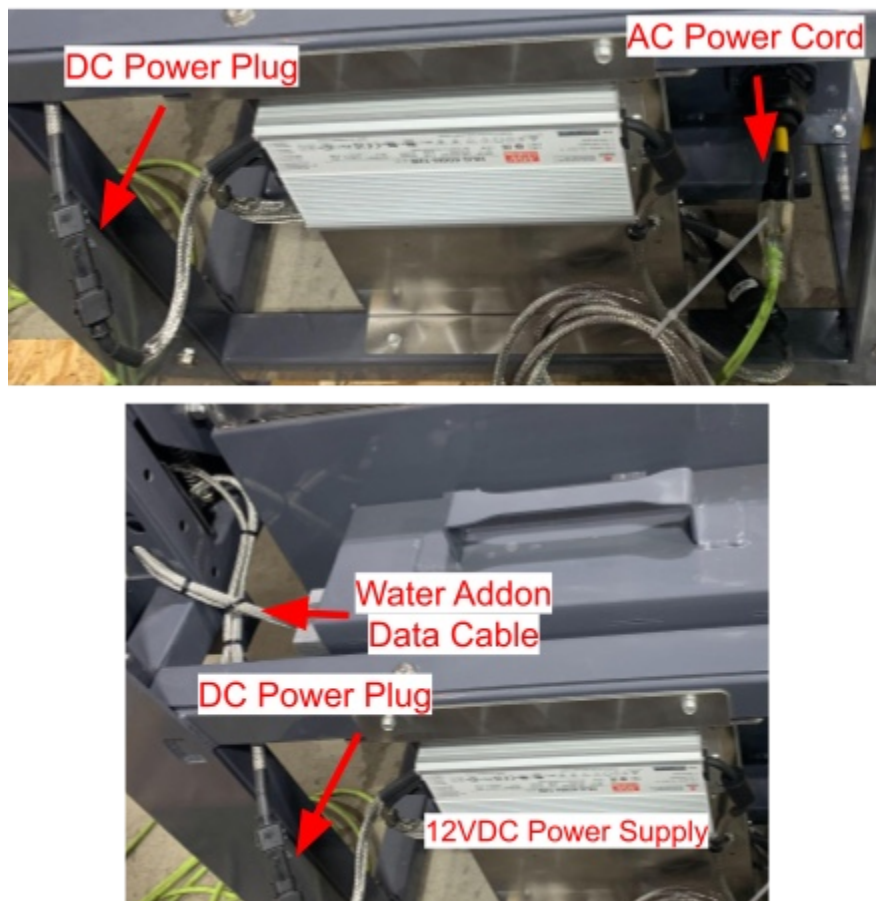

Figure 11) SmartFeed Power and Water Communication
1. Connect the provided power cable to the SmartFeed power plug. The plug is located next to the main power supply. Also ensure the water add-on communication line is connected. See Figure 11 for reference.